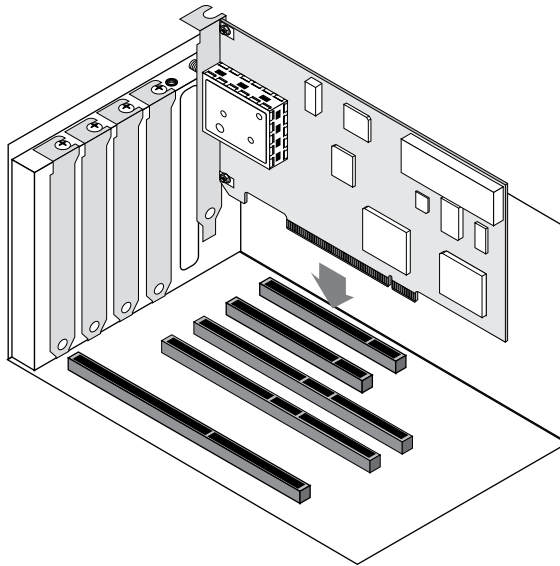

Figure 2-2. Installing the PCI DirecPC adapter into the slot
7. Install the DirecPC adapter into the slot as follows: while being careful not to damage the cable connector, align your adapter's slot connector with the PCI expansion slot and firmly press on the adapter until it is fully seated into the slot (see figure 2-2).